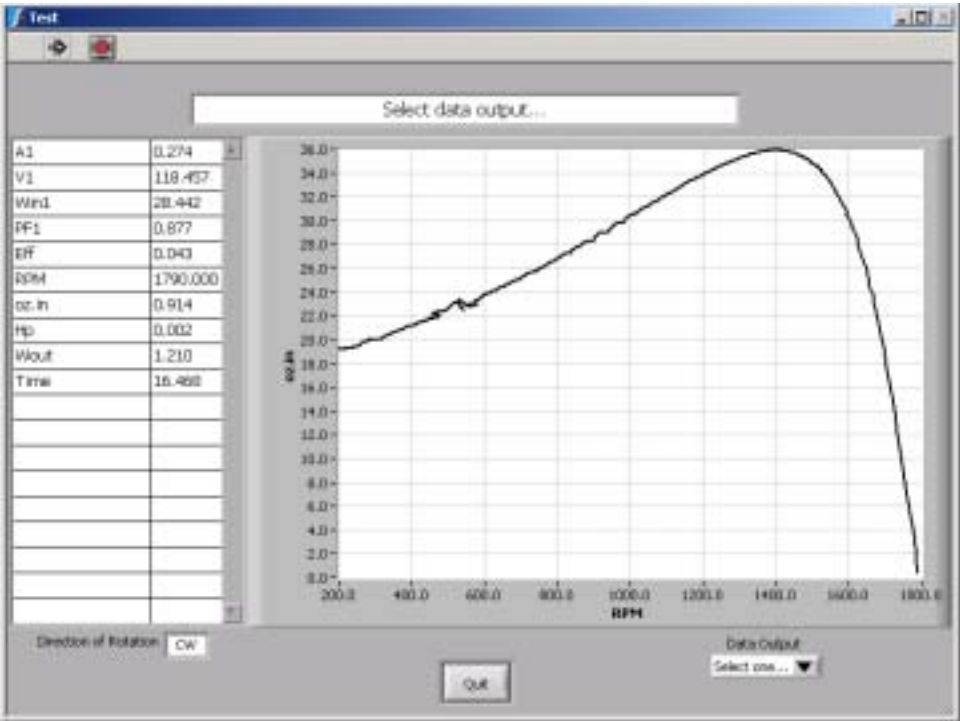

Figure 7-1 Test Window Example
12. Click **Run Test**. The Test window will appear based on the Configure Display setup. See *Figure 7-1 Test Window Example*.